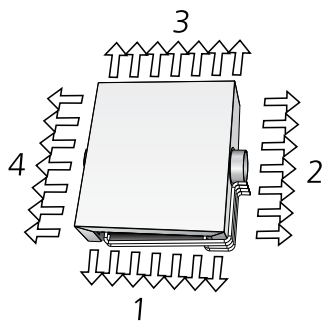
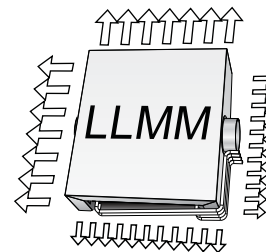

Figure 5. Top view nozzle setting singlemodule unit side 1-4.
Figure 6. Example of nozzle setting for a single-module unit - LLMM
* All four sides of the unit can be adjusted individually. The description of the nozzle setting follows the order shown in figure 5. See example shown in figure 6.